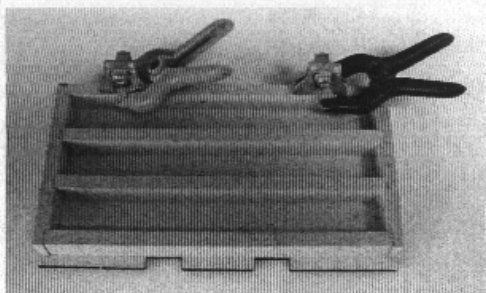

Figure 6
- 7) Next, measure in 3/4" from both ends and attach the flap lid journals to the base assembly with ca cement on one side. You may need to clamp them in place while they dry. (fig 6)